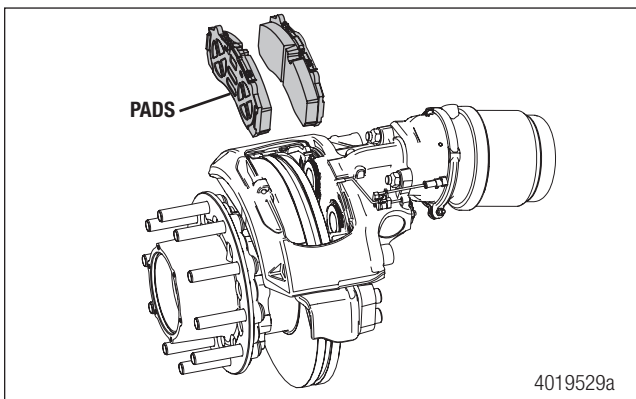

Figure 6
9. Remove the pad springs and brake pads from the caliper. Discard the removed parts. Figure 6.